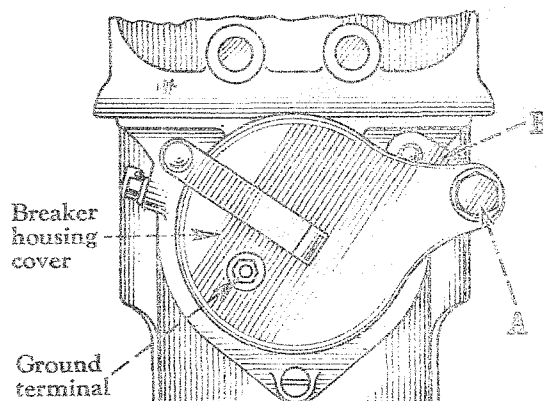

Figure 79H. Breaker Housing Cover with Timing Link
(1) Pull the compression release lever into the starting position for gasoline operation.
(2) Crank the engine until the No. 1 piston (the piston nearest to the radiator) is on the upper dead center of the compression stroke. (The compression stroke can be determined by removing the No. 1 spark plug, placing a thumb over the opening, and having the engine cranked until an outward pressure is felt by the thumb.) Continue cranking until the DC 1-6 mark on the flywheel is in line with the pointer on the right side of the flywheel housing. The pointer can be seen by removing the plate on the right-hand side of the flywheel housing.
(3) Fully retard the spark by rotating the link end of the breaker housing cover counterclockwise as high as it will go, and removing the cover. To do this, remove the nut (A) and link (B), Fig. 79H; then remove the breaker housing cover carefully to avoid moving the breaker assembly.